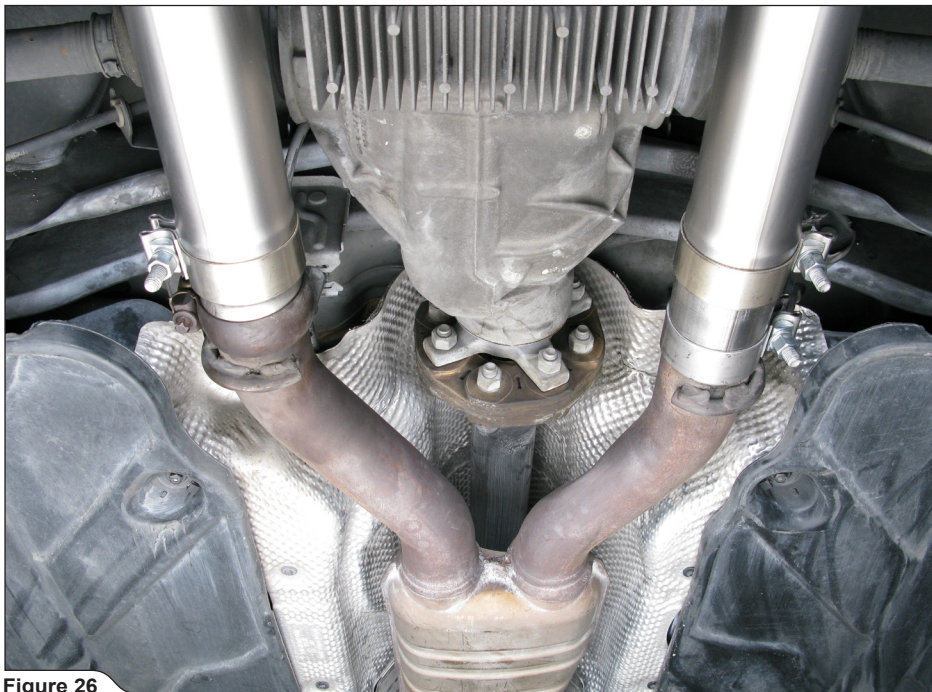

Figure 26
10. **For Slip-On only:** slide the right muffler pipe onto the original right middle pipe first, then slide the left one onto the left and hand tighten all clamps (**Figure 26**).